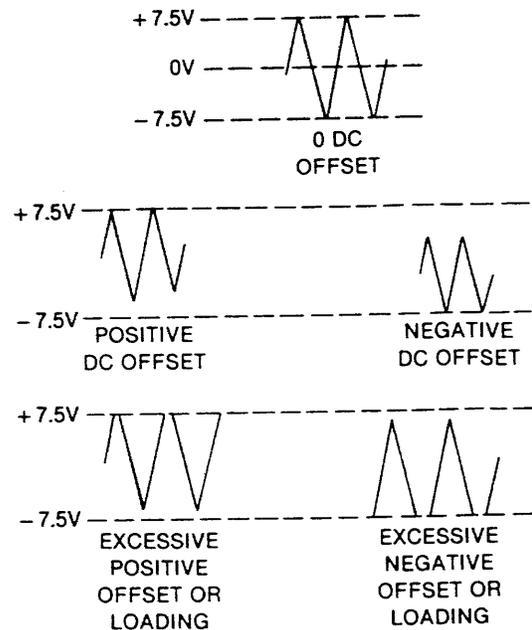

Figure 3-3. DC OFFSET Control
DC OFFSET Control — Inner coaxial knob offsets the FUNC OUT 10 output waveform vertically from its normal position and when FUNCTION (outer coaxial knob 13) is in the DC position, controls polarity and voltage of dc output. DC output range is 0 ± 10 Vdc (± 5 Vdc into 50Ω). DC OFFSET switch 11 must be depressed to enable this DC OFFSET Control. Extending the DC OFFSET switch ensures zero volt offset. DC offset and waveform are attenuated by the OUTPUT ATTEN control 8 but dc offset is not attenuated by the AMPLITUDE control 9. Waveform peak voltage plus dc offset is limited to ± 15 Vdc (± 7.5 Vdc into 50Ω). See figure 3-3.
- 7 DC OFFSET 11, 13 Set as desired. Limit offset to prevent waveform clipping (see figure 3-3).